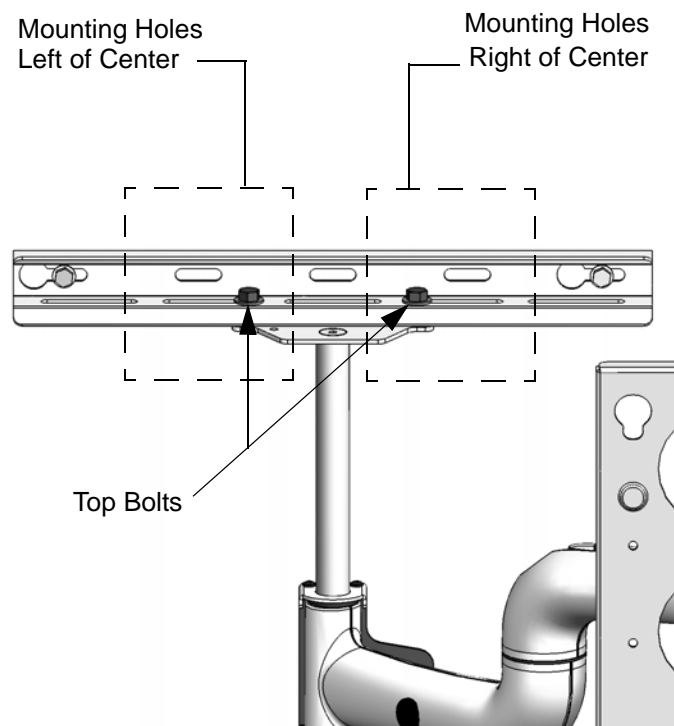

Figure 12. Swing Arm Adjustment – Slightly Off Center
2. Remove four bolts (two on the top and two on the bottom) securing the swing arm assembly to the top and bottom mounting brackets (see Figure 12).
- For left of center, use the mounting hole slots shown in Figure 12.
- For right of center, use the mounting hole slots shown in Figure 12.